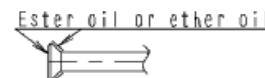

Fig. 11
- When connecting the flare nut, coat the flare both inside and outside with ester or ether oil and initially tighten 3 or 4 turns by hand before tightening firmly. See Figure 11.